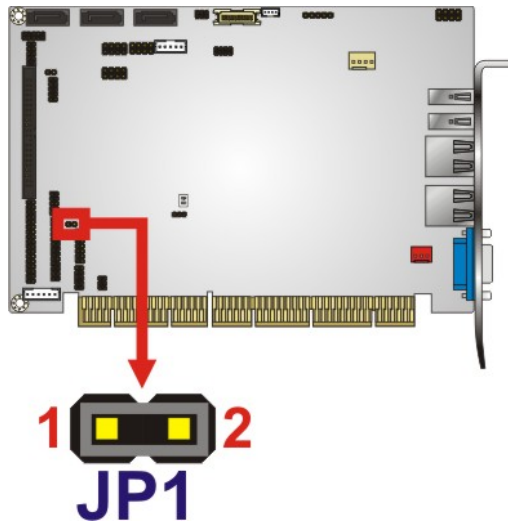

Figure 4-8: PCIe Slot Jumper Location
- Jumper Location:** See **Figure 4-8**